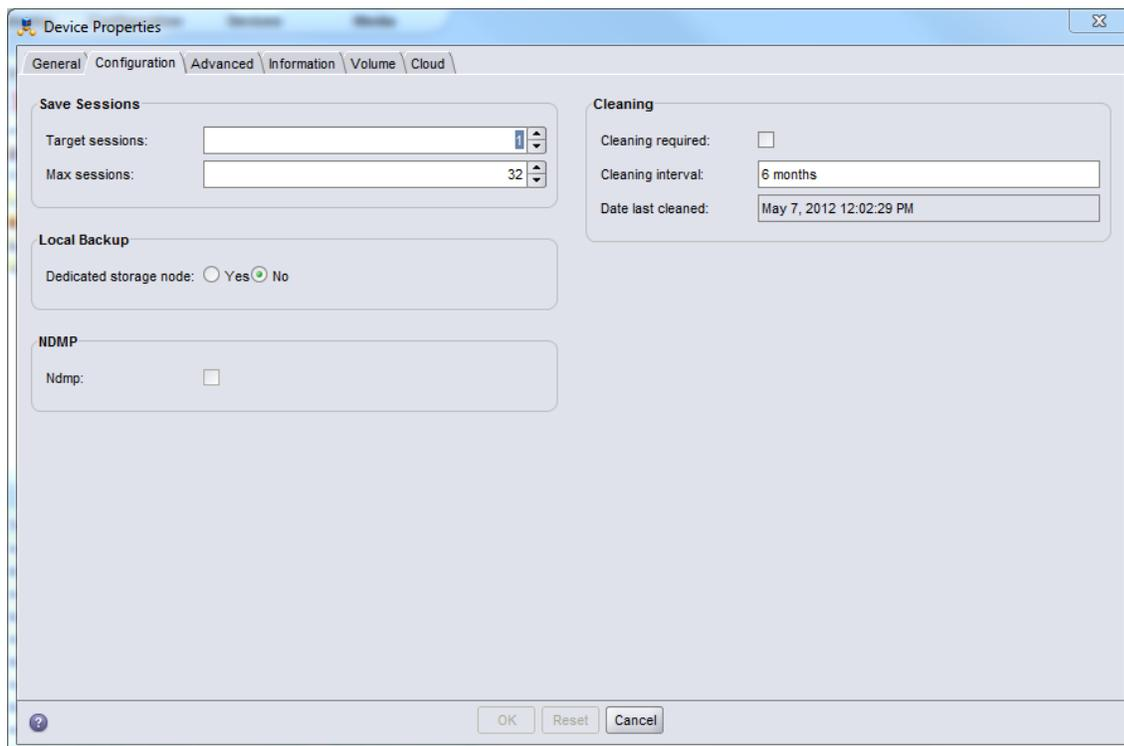

Figure 8: NetWorker Device Properties for tape drive.
- 4) Modify each tape drive and set target sessions to 1 (default is 4) in order to evenly spread the backup load across the tape drives, otherwise all drives might not be utilized. (See Figure 8):